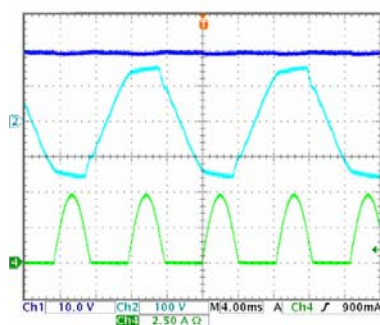

Figure 3-15 All
The load current under rectified mode is shown as Figure 3-15, 3-16 and 3-17. This load current is rectified sine wave so needs to set CF value.
The loading conditions of the following three figures (Figure 3-15, 3-16 and 3-17) are the waveforms getting from  $V_{source}=60V_{DC}$ ,  $I_{set}=10A$ ,  $CF=2$ , LINE SYNC=YES. The waveform on the top (Channel 1) is DC voltage  $V_{source}$ , on the medium (Channel 2) is power line voltage of frequency 60Hz and on the bottom (Channel 4) is load current.
**ALL:** Using the power line frequency as the reference frequency for the load current, for the ALL setting, both positive and negative half period of the power line is loading  $V_{source}$  (UUT). This load frequency is two times of power line frequency (please refers Figure 3-15). For example: power line frequency is 60Hz thus the load frequency of the current is 120Hz.
The load current in rectified mode are shown in Figure 3-15, 3-16 and 3-17; it's a rectified sine wave, therefore the CF value needs to be set.